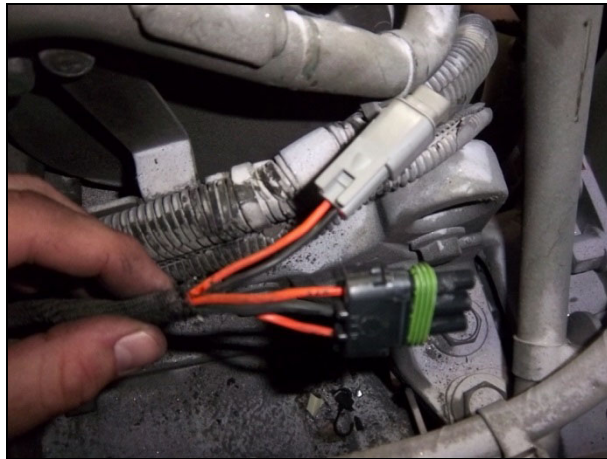
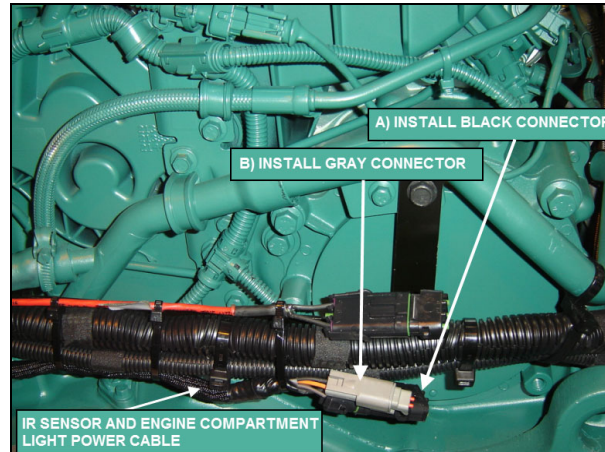
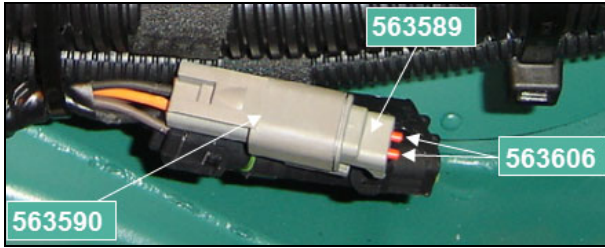

FIGURE 23
FIGURE 24
FIGURE 25: DEUTSCH CONNECTOR
- 2) **Installation of black connector** (FIGURE 23, FIGURE 24). Inside the remaining section of previous step harness, identify and separate circuits 346, 0FE (ground) and 347. Install a PED Weather Pack connector.
- 3) **Installation of gray connector** (FIGURE 23, FIGURE 24, FIGURE 25). Inside the remaining section of the harness (previous steps), identify separate circuits 9B and 0RA2. Install a Deutsch DTM connector. This connector is installed as provision for further use if needed.